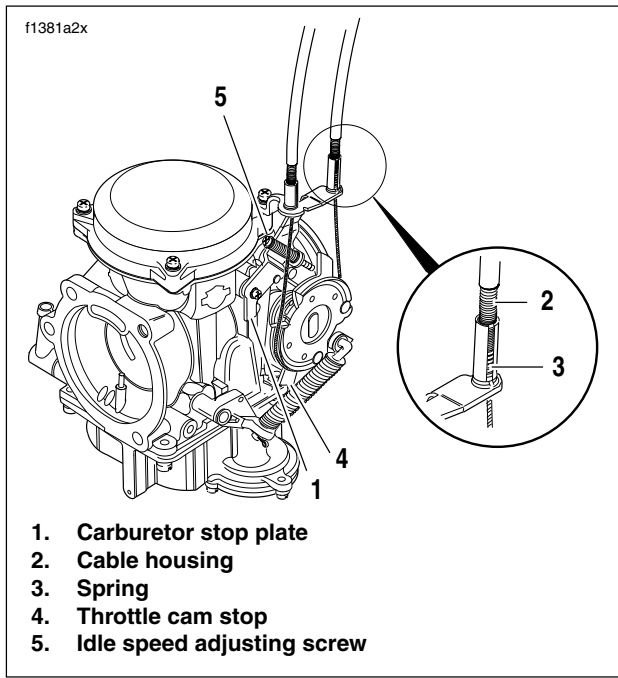

Figure 3-1. Carburetor Adjustments
See Figure 3-1. Set engine slow idle speed of 950 RPM with engine running at normal operating temperature and with enrichment control knob pushed in fully. Turn carburetor idle speed adjusting screw (5) clockwise to increase speed, or counterclockwise to decrease speed.
5. See Figure 3-1. Turn adjuster on throttle control cable until throttle cam stop (4) touches carburetor stop plate (1).
7. See Figure 3-1. Turn handlebars fully to right. Turn adjuster on idle control cable until end of cable housing (2) just touches spring (3) within carburetor cable guide.